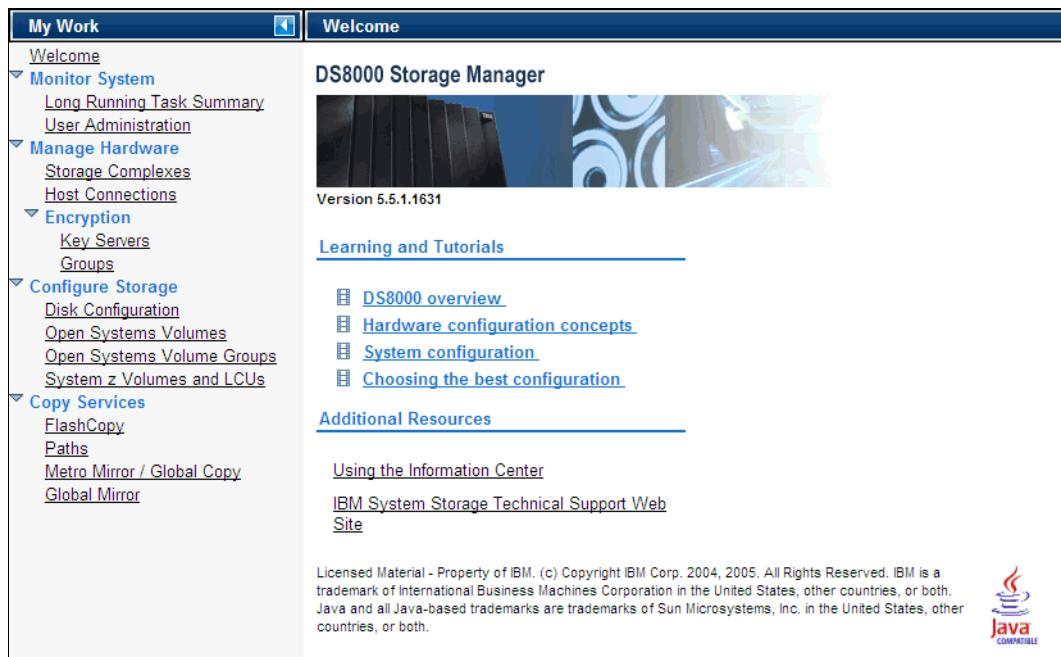

Figure 13-6 SSPC: DS GUI Welcome window
5. You are presented with the DS GUI Welcome window for the selected disk system, as shown in Figure 13-6.